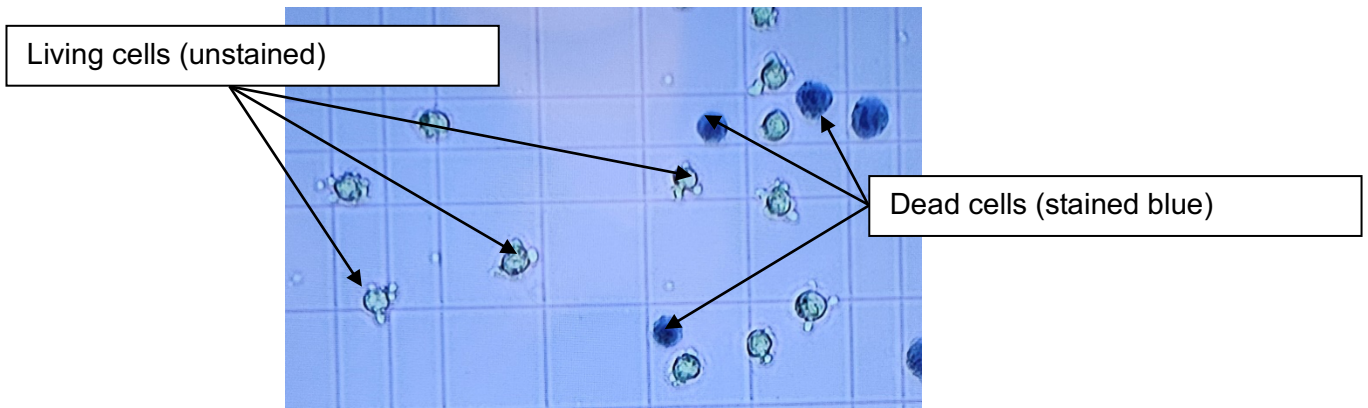

Figure 5.3. Living and dead cancer cells under the microscope.
2. Take a new microtube and add 20 μL of trypan blue. Trypan blue is a dye commonly used to visually separate living cells from dead cells. Live cells have their cell membrane still intact and exclude the dye. The cells appear unstained under the microscope. Dead cells cannot exclude the dye and appear blue under the microscope (see figure 5.3).